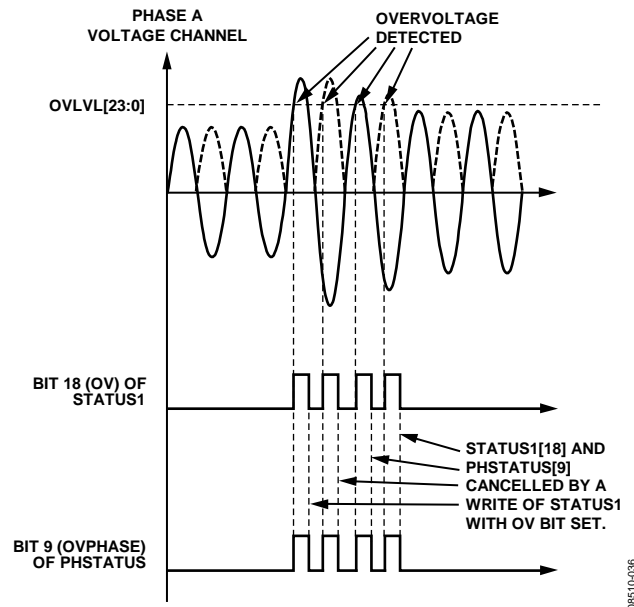

Figure 52. Overvoltage Detection
The ADE7854/ADE7858/ADE7868/ADE7878 detect when the instantaneous absolute value measured on the voltage and current channels becomes greater than the thresholds set in the OVLVL and OILVL 24-bit unsigned registers. If Bit 18 (OV) in the MASK1 register is set, the $\overline{\text{IRQ1}}$ interrupt pin is driven low in case of an overvoltage event. There are two status flags set when the $\overline{\text{IRQ1}}$ interrupt pin is driven low: Bit 18 (OV) in the STATUS1 register and one of Bits[11:9] (OVPHASE[2:0]) in the PHSTATUS register to identify the phase that generated the overvoltage. The Status Bit 18 (OV) in the STATUS1 register and all Bits[11:9] (OVPHASE[2:0]) in the PHSTATUS register are cleared, and the $\overline{\text{IRQ1}}$ pin is set to high by writing to the STATUS1 register with the status bit set to 1. Figure 52 presents overvoltage detection in Phase A voltage.